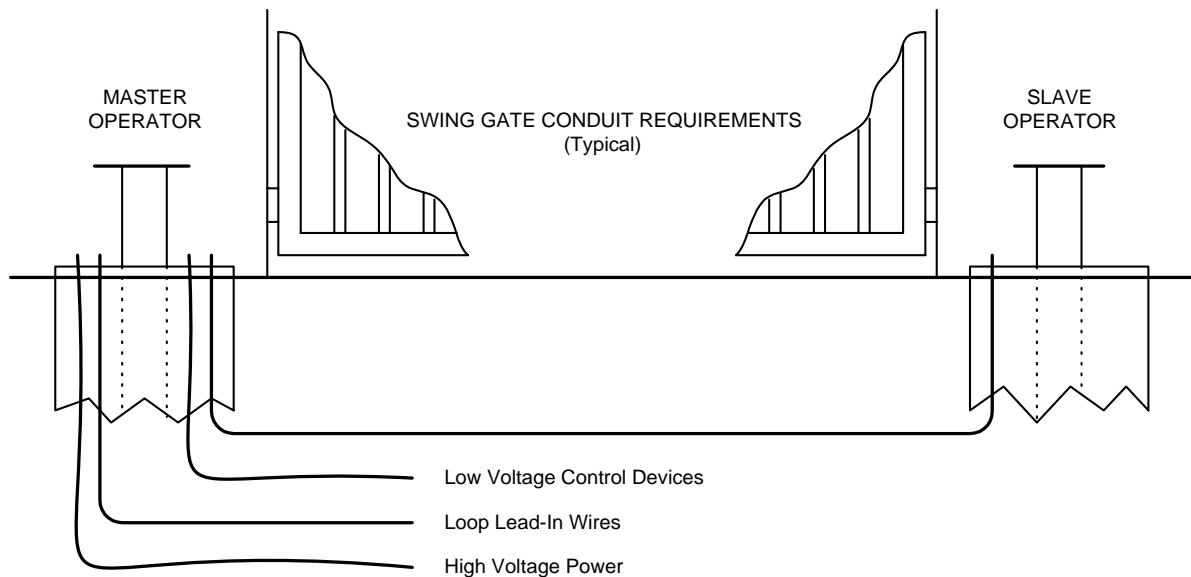

Figure 22
- The conduit requirements shown in figure 22 are for a typical swing gate operator installation (the slave operator is shown for those applications where a slave operator may be used). The conduit requirements for your application may vary from this depending on your specific needs.